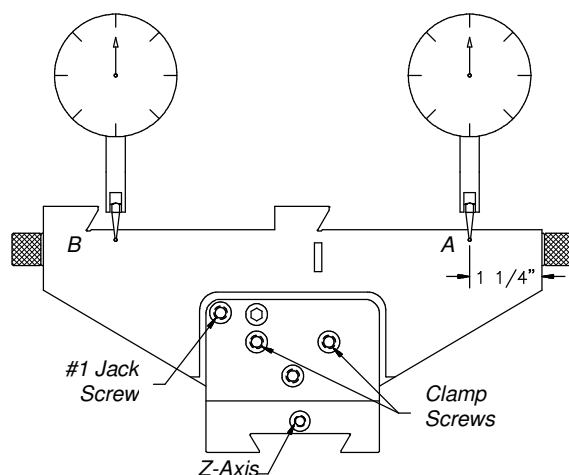

Figure 1
STEP 4. (A). True the first axis (x-axis) by placing the indicator ball 1 1/4 inches from the right end of the vise as shown in Fig. 1, point A. **(B).** Back off the two clamp screws about 1/4 turn. **(C).** Zero the indicator. **(D).** Move the indicator to the other vise bed as shown in Fig. 1, point B. **(E).** Turn the #1 jackscrew until the indicator returns back to zero. (The first axis is now true).